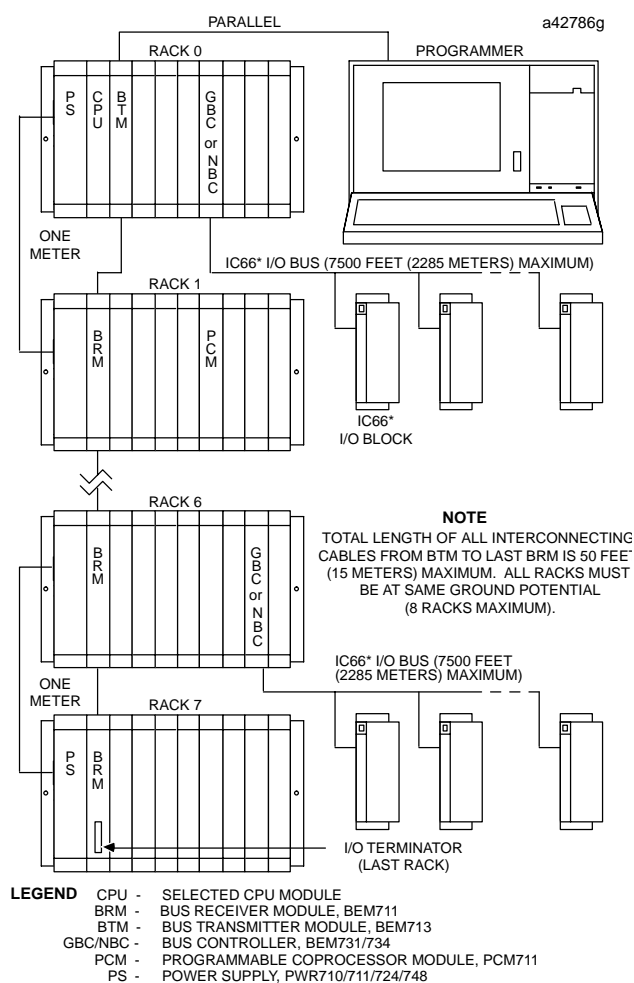

Figure 1. Typical PLC System Configuration
- Install in rack. (See figure 1)
Refer to Figure 1, Bus Transmitter Module version IC697BEM713A must be installed to the right of the GBC/NBC or any other IC697 I/O modules. BTM version IC697BEM713B can be installed as shown in the figure (next to the CPU).